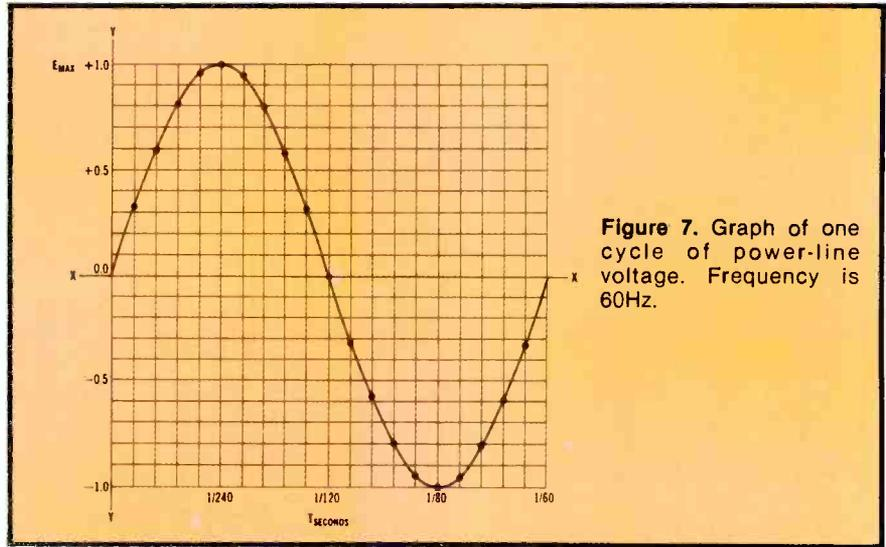

Figure 7. Graph of one cycle of power-line voltage. Frequency is 60Hz.
Figure 7 shows a graph of one cycle of voltage having a frequency of 60Hz. Instantaneous voltage is plotted above or below the X or horizontal axis; elapsed time is plotted to the right of the vertical axis (Y) and measured in fractions of a second. The peak voltage is taken as 1 to simplify plotting the graph. This curve is called a sine curve because the amplitude or Y value at any point on the curve equals the maximum value of  $E$  (in this case, 1) times the sine of the X value at that point. (X must be converted to degrees, with one com-